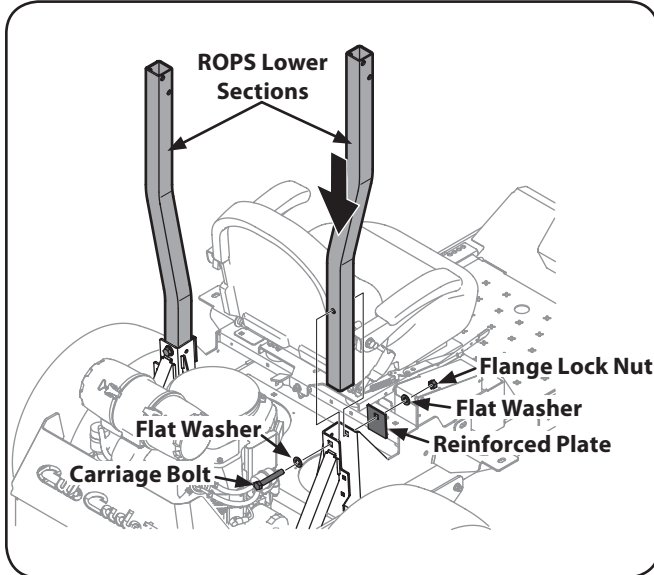

Figure 3-3
1. Insert each of the lower section ROPS tubular posts into the brackets welded to the tractor main frame. See Fig. 3-3.
NOTE: The ROPS folding stop should be positioned toward the rear of the unit. See Fig. 3-3.
3. Install the reinforced plates and flange lock nuts, but do not tighten. See Fig. 3-3.
6. Tighten the frame mounting hardware to 80-90 lb.-ft. torque. See Fig. 3-3.